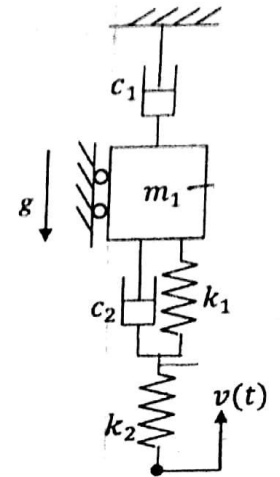

Fig. 4.
4. Derive the state-space equations of the system shown in Fig. 4. Include gravity in the model. Consider vertical motions only.